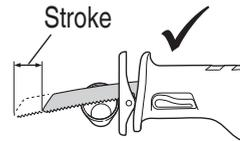
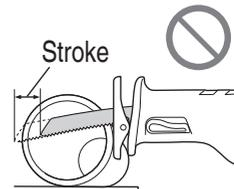
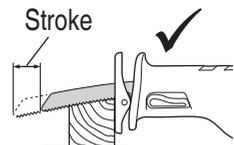
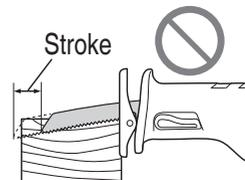

Fig. 13
Fig. 14
Fig. 15
Fig. 16
- Select a saw blade of the most appropriate length. Ideally, the length protruding from the base of the saw blade after subtracting the stroke quantity should be larger than the material (see Fig. 13 and Fig. 15). **If you cut a large pipe, large block of wood, etc., that exceeds the cutting capacity of a blade; there is a risk that the blade may contact with the inner wall of the pipe, wood, etc., resulting in damage (Fig. 14, Fig. 16).**